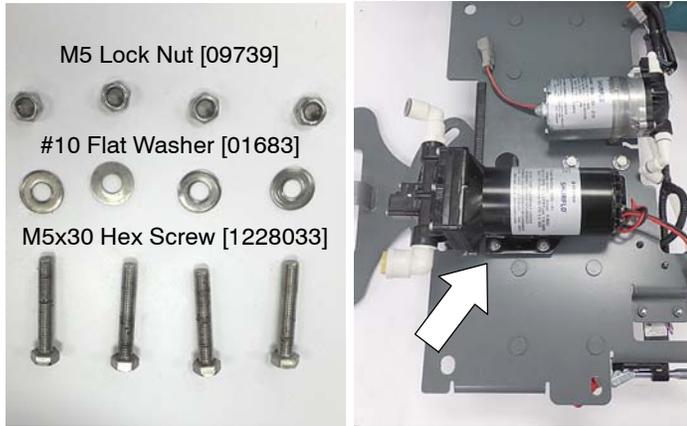

Fig. 6
4. Using hardware shown, mount the spray pump to the machine frame as shown (Figure 6).